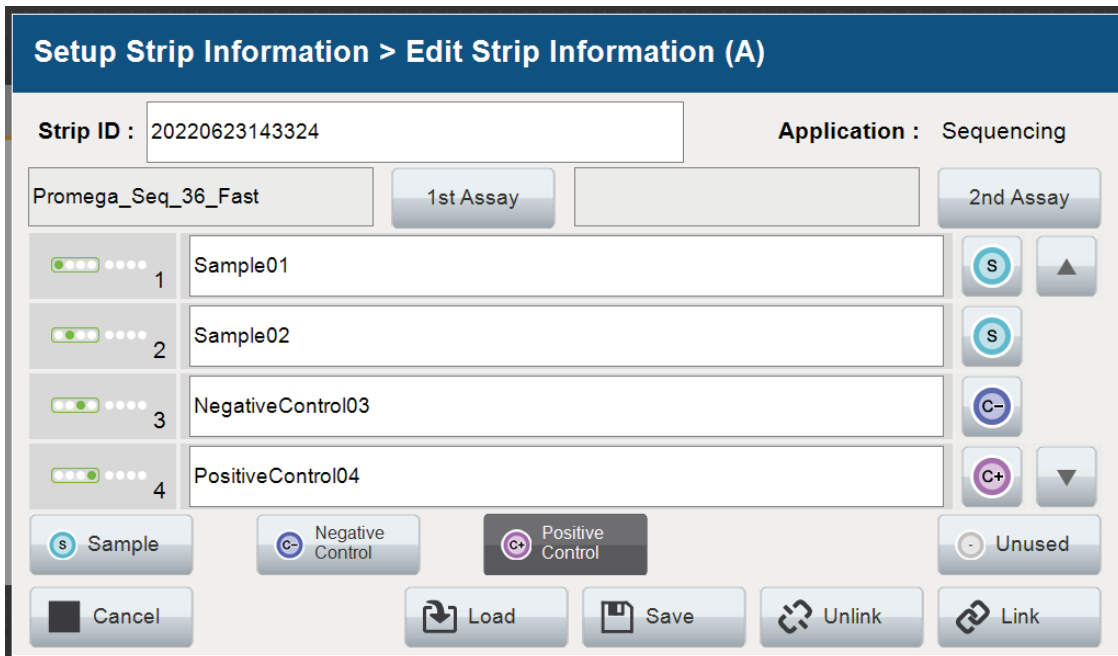

Figure 18. Completed ‘Edit Strip Information’ screen.
11. When all information is entered and verified for the strip, select **Link** on the lower right corner of the ‘Edit Strip Information’ screen (Figure 18). This will link the strip to the run. If you want to save the strip information to use in future runs, save the information by selecting **Save** at the bottom of the ‘Edit Strip Information’ screen (Figure 18). This will save the strip information so that it can be loaded later into another run as well as save the strip to the run. Refer to the *Spectrum Compact CE System Operating Manual #TMD058* for use of saved strip information.